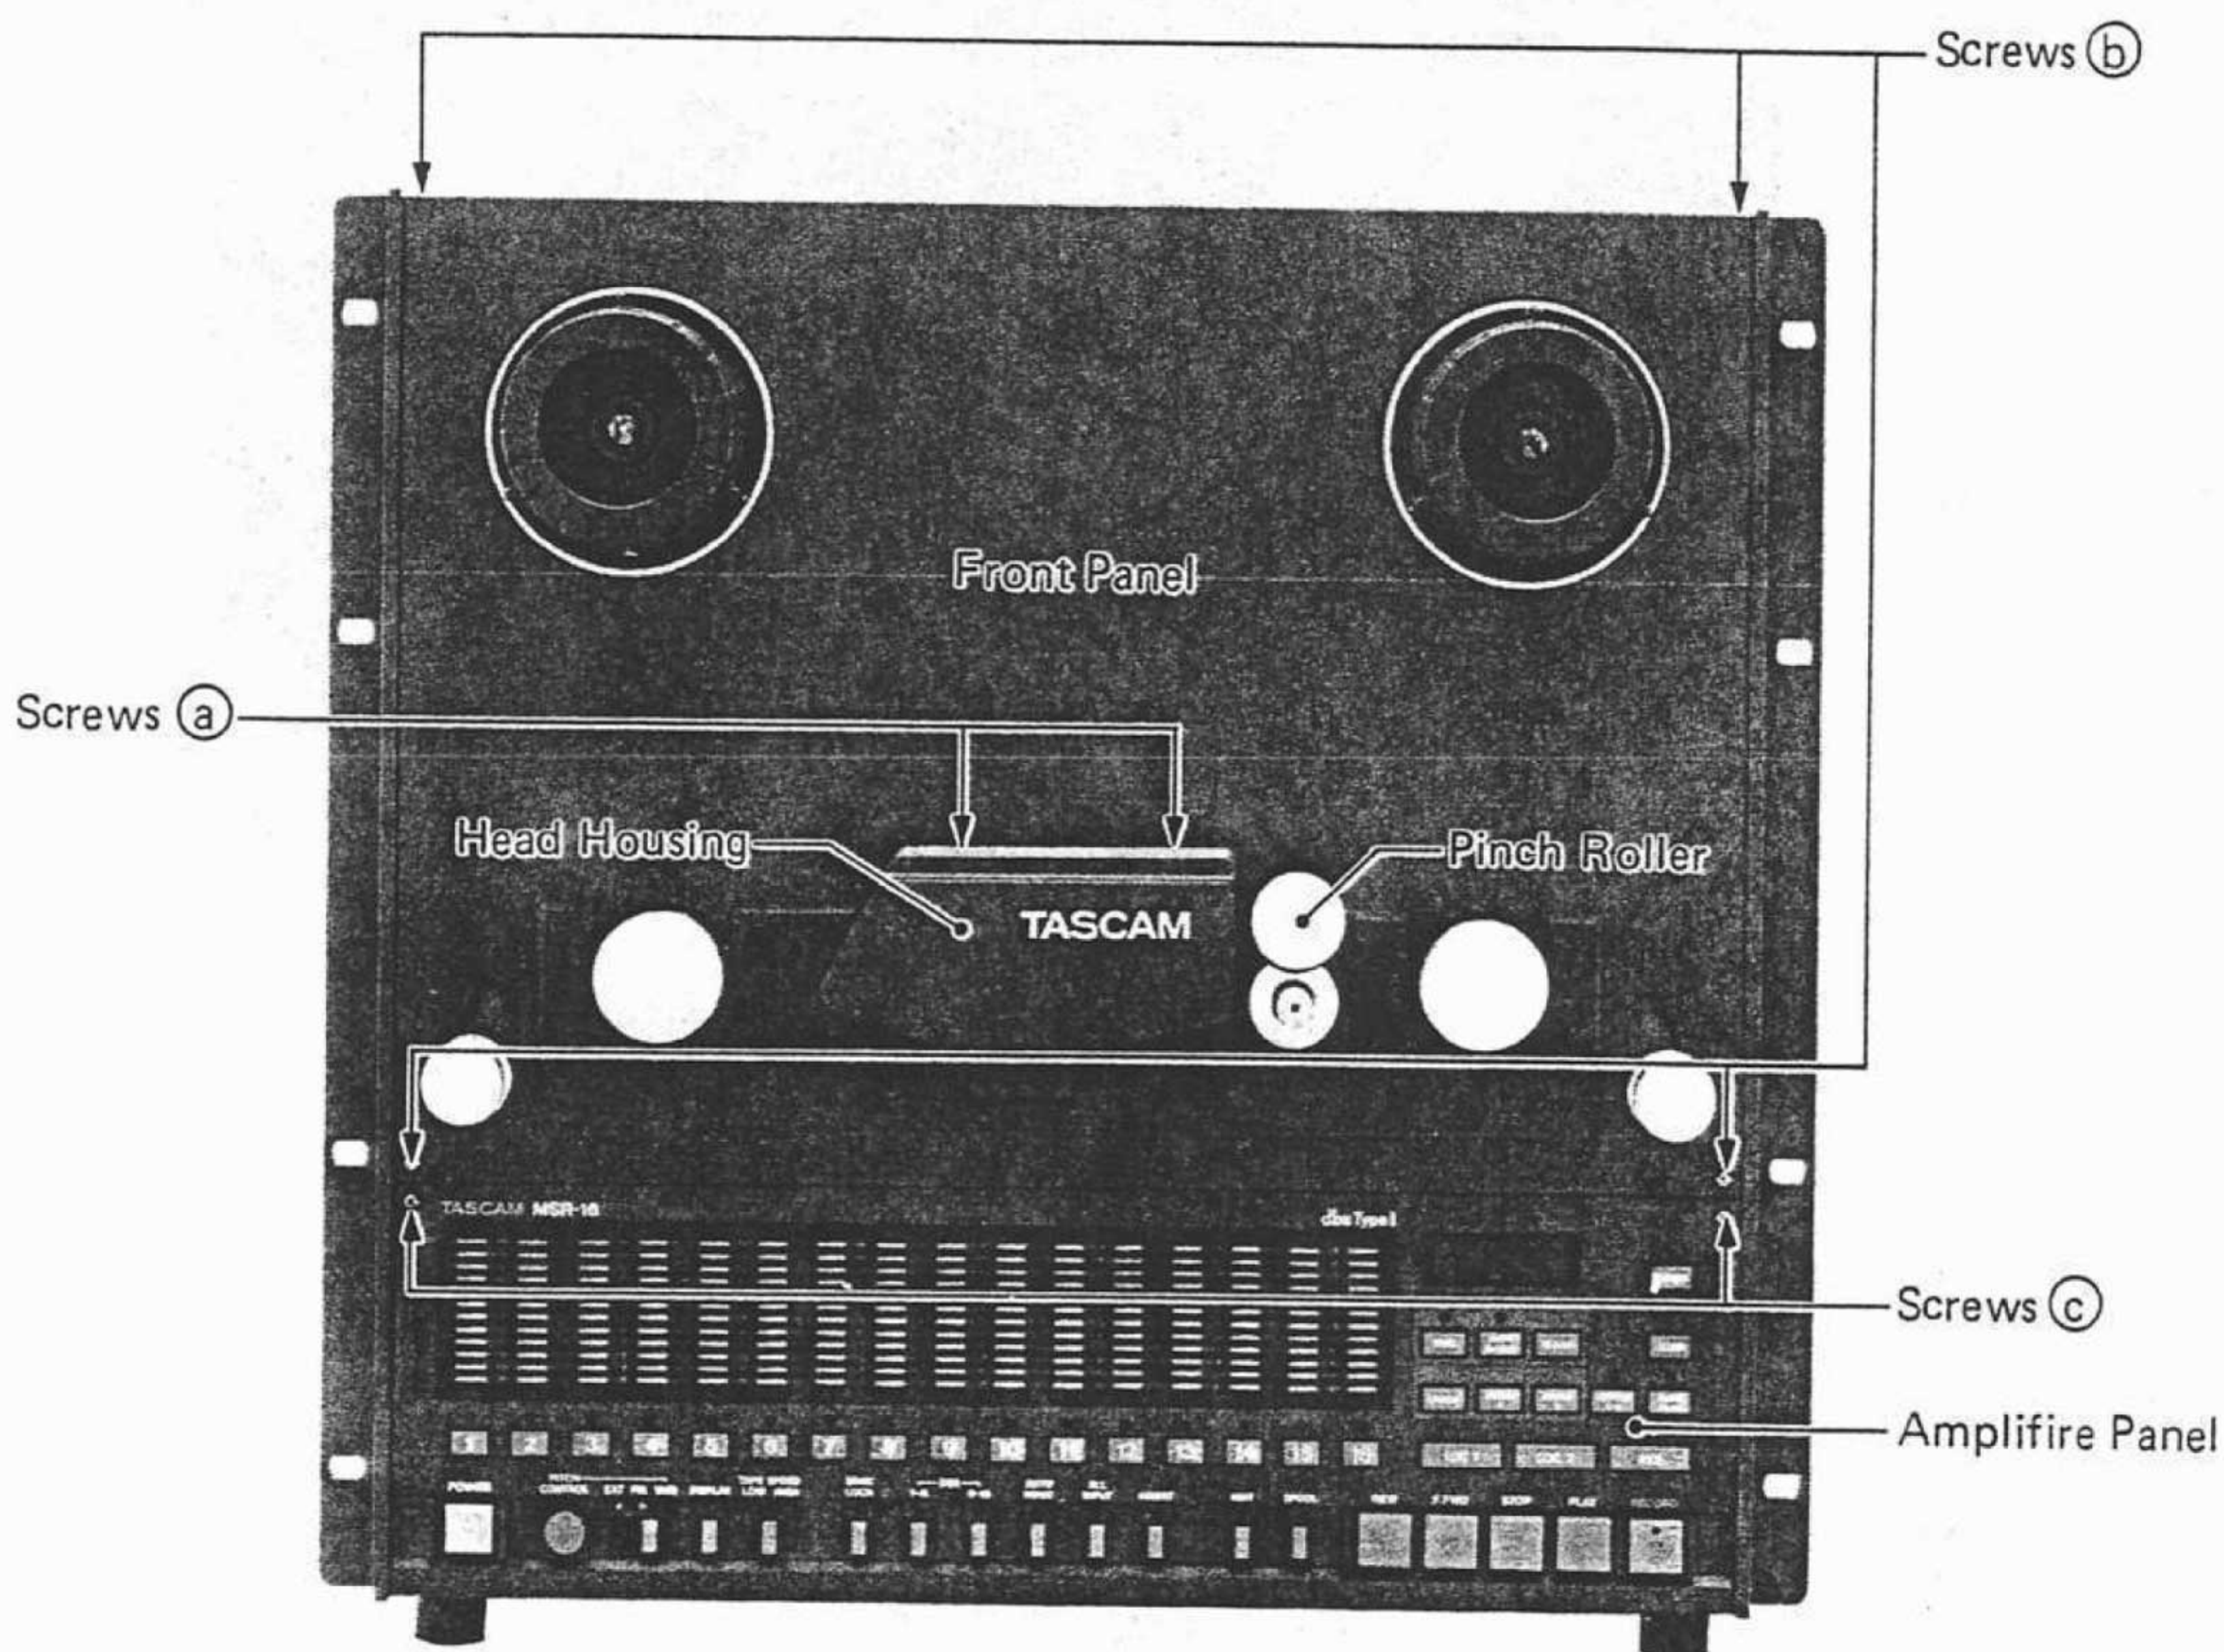

FIG. 6. FRONT VIEW
1. Remove the head housing by removing the two hex head screws marked (a) in Fig. 6.
3. Remove the four hex head screws marked (b) in Fig. 6.
Remove the two hex head screws (c) in Fig. 6 and the amplifier panel can be opened by pulling it toward you.